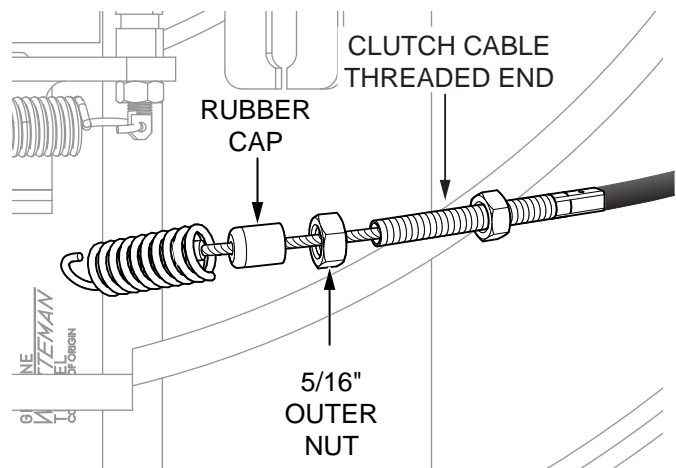

Figure 16. Outer Nut And Rubber Cap Removal
6. Remove the 5/16" outer nut and rubber cap from the threaded end of the clutch cable (Figure 16).